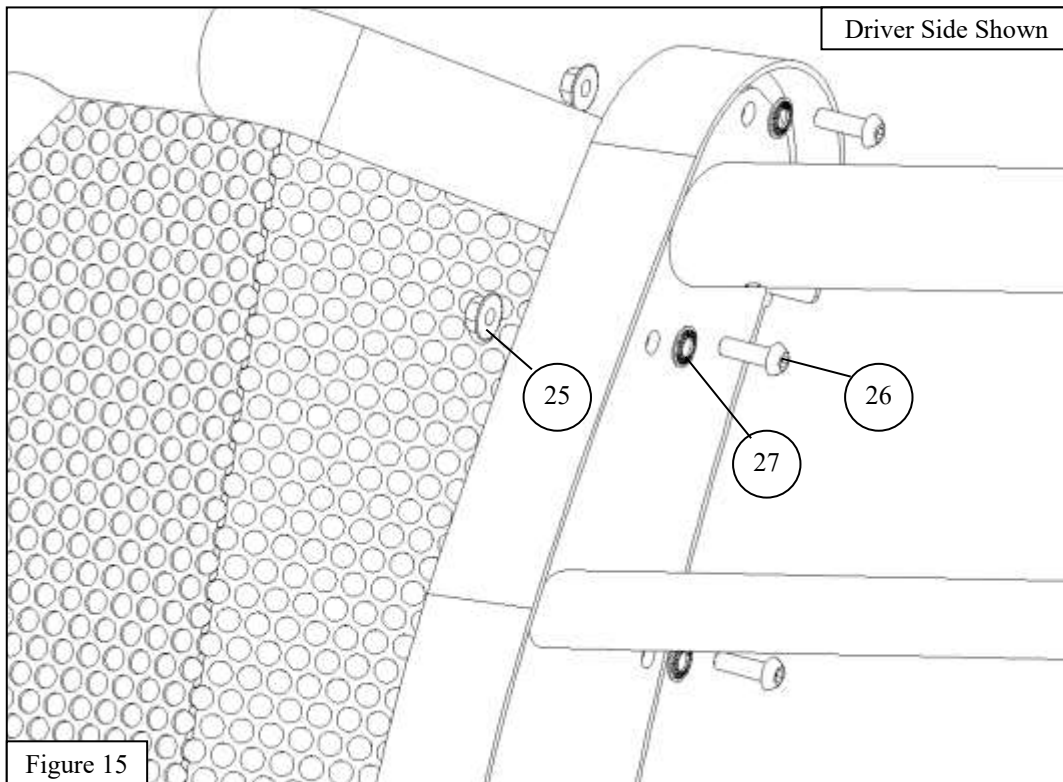

Figure 15
21. Locate and install the Driver and Passenger Wings (Items 2-3) using the supplied M8 hardware (Items 25-27). See **Figure 15** for reference.